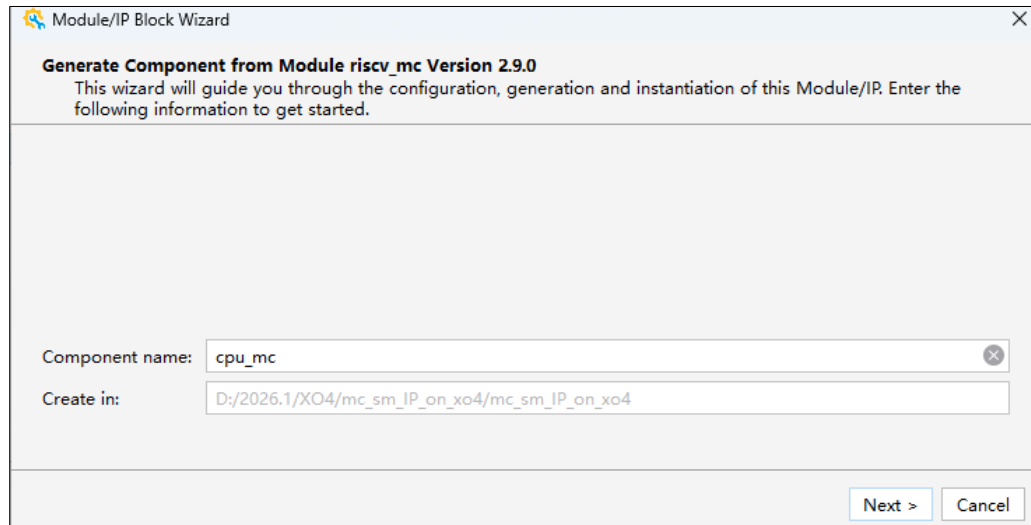

Figure 3.1. Entering Component Name
1. In Lattice Propel Builder, create a new design. Select the CPU package. Enter the component name, as shown in Figure 3.1. Click **Next**.